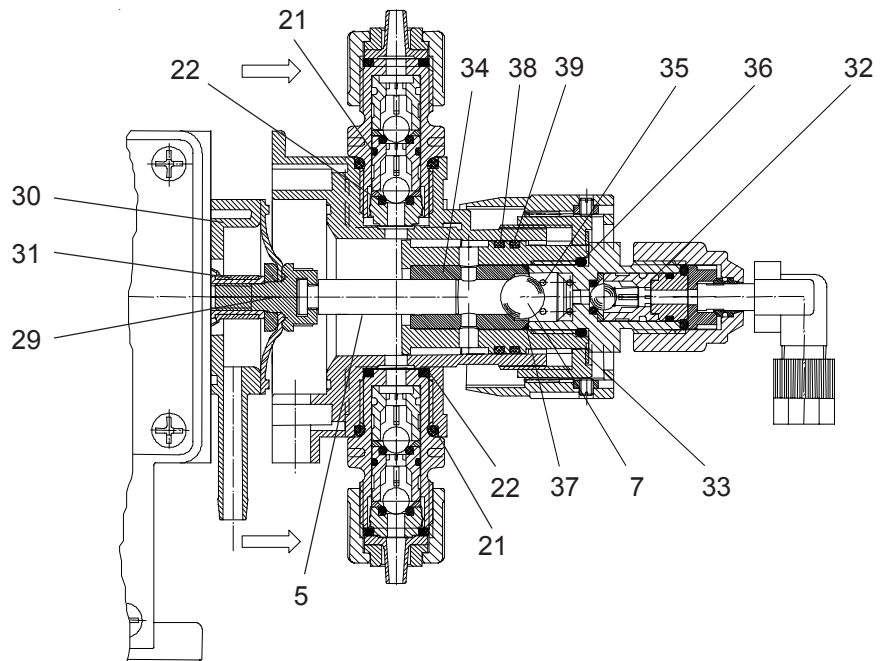

Figure 4.2 - Valves and Diaphragm Assembly
if there is no evidence of defect. Refer to Figure 4.2 for the valve assembly drawing.
- c. Loosen the metering head screws and pull out the pump head absolutely straight. Refer to Figure 4.2.
**CAUTION:** The head must be pulled straight out until the piston (5) clears the cylinder (34). The piston (5) remains connected to the diaphragm (29), but may fall while pulling the head.
- d. Remove the ceramic piston (5) sideways out of the coupling of the diaphragm unit (29).
- e. Unscrew the diaphragm unit (29) and remove the intermediate plate (30).
- f. Remove the bellow (31) and exchange for the new one.
- g. Gently screw in the diaphragm unit (29) until it stops.
- h. Re-insert the piston (5) into the cylinder unit (34) and carefully push the pump head absolutely straight.
- b. Unscrew valve nipple (32). Refer to Figure 4.2.
**CAUTION:** Watch for the spring (35) and valve ball (7) as they might fall out.
- c. Remove washer (33), valve ball (7), and spring (35).
- d. Push the ceramic cylinder unit (34) at the diaphragm end.
- g. Re-install the valve nipple (32) with the valve ball (7) and spring (35) in proper position.
- b. Unscrew the union nut (40) that holds the connection assembly. Refer to Figure 4.2.
- c. Unscrew the valve nipple (32) and remove valve ball (7) and spring (35).
- d. Replace O-rings (36 and 37), valve ball (7), and spring (35).
- e. Install the new metering valve assembly with new valve ball (7) and new spring (35) in proper position.